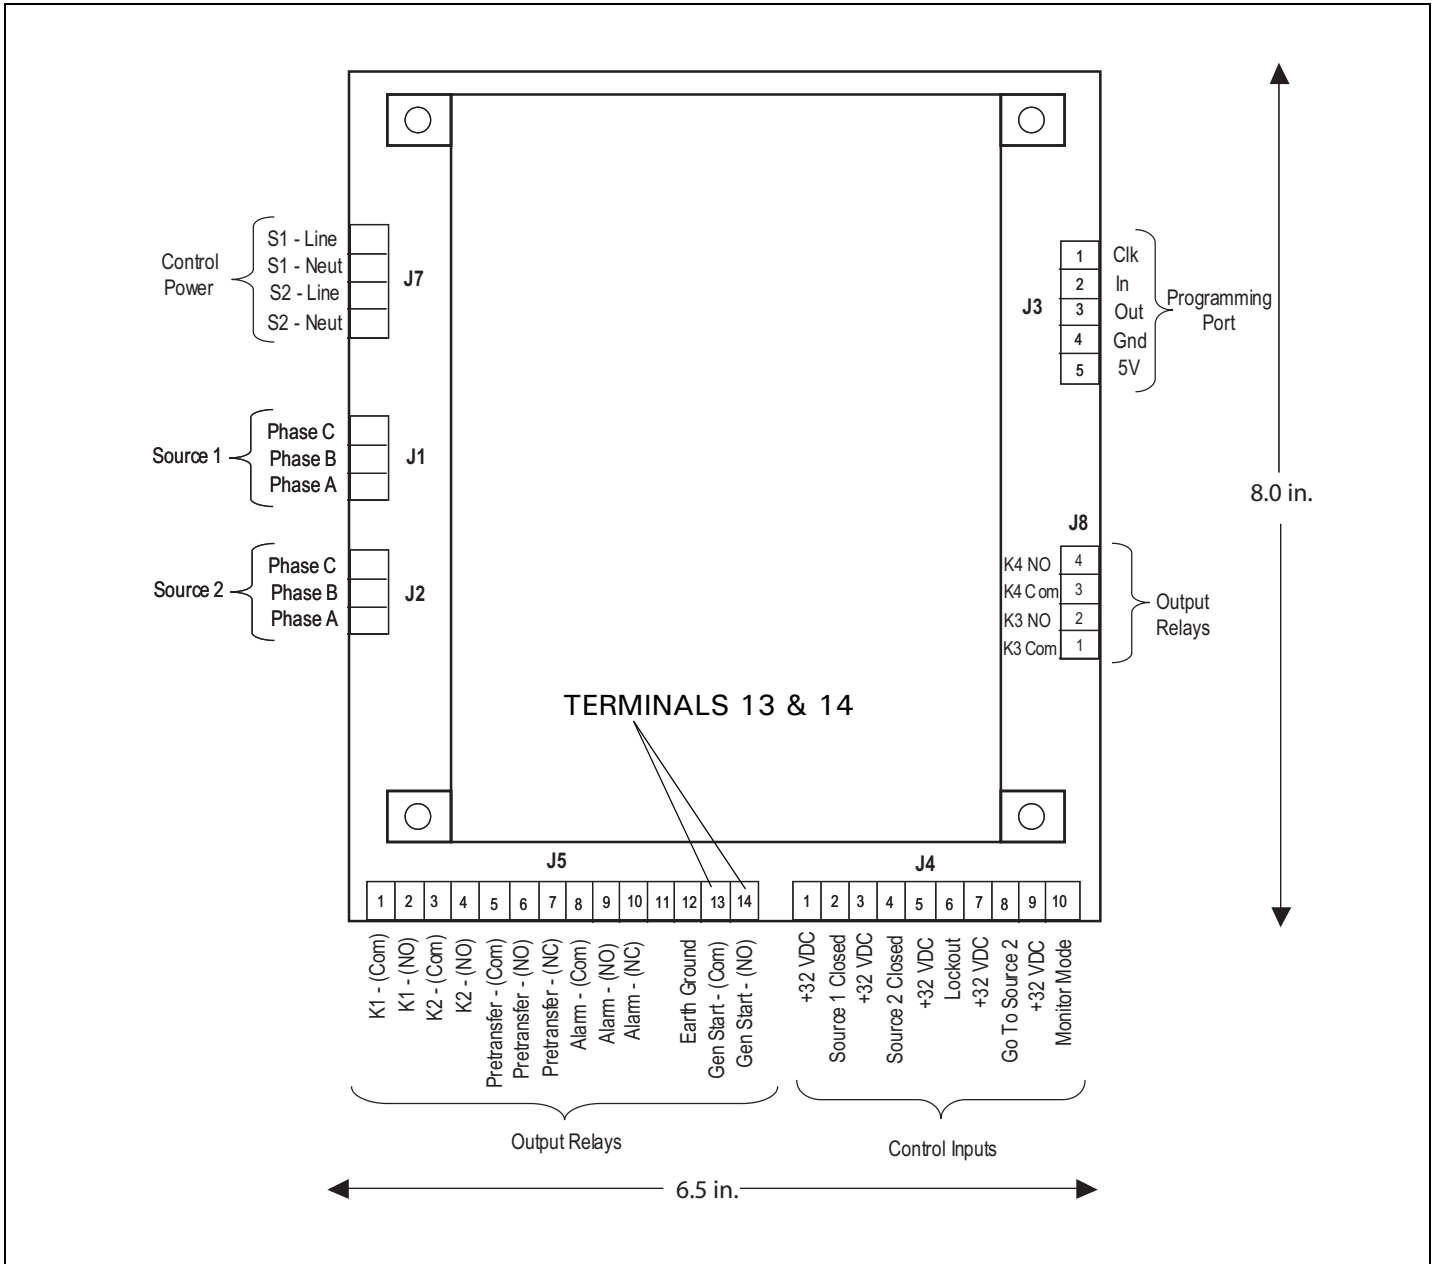

Figure 22. Engine Generator Control Connection.
Step 4: Connect the Engine Generator Start wires to terminals 13 and 14 on the J-5 connector on the ATC-300 Controller (Figure 22). This contact is CLOSED whenever